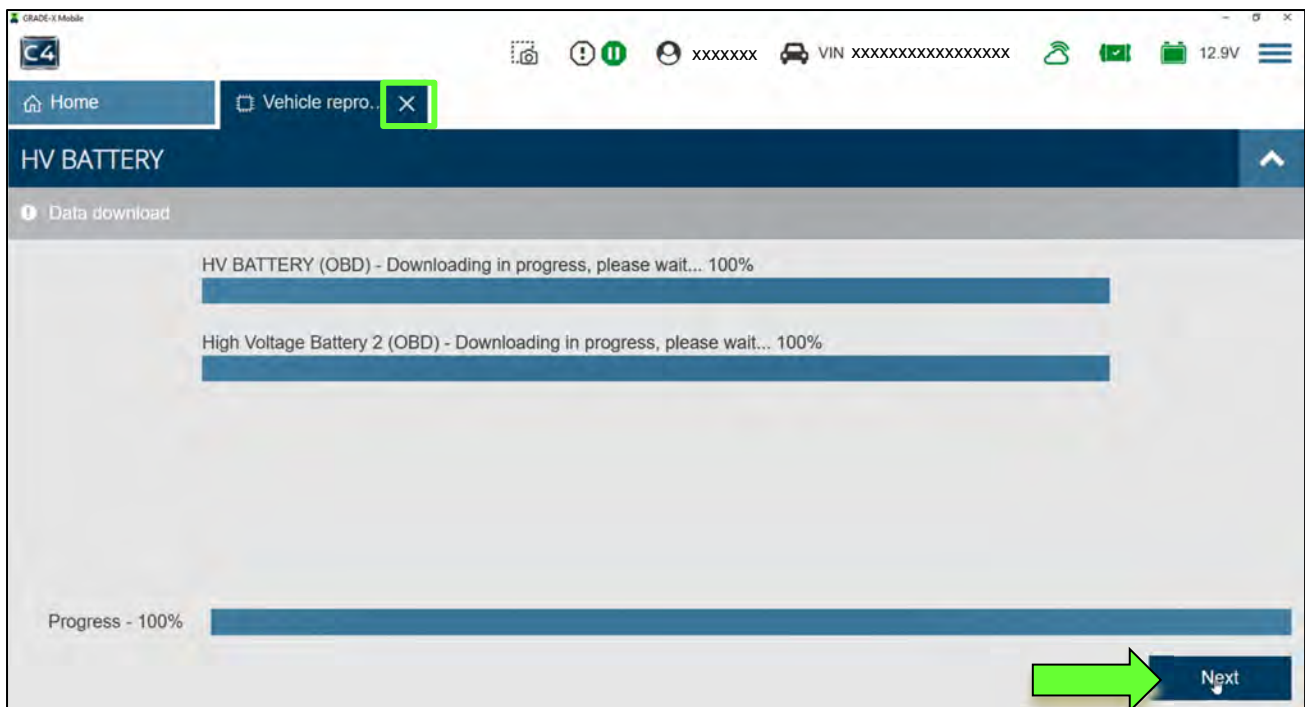

Figure 7
22. Wait for all three (3) progress bars to fill to 100%, and then select **Next**.
**IMPORTANT:** If both “HV BATTERY” and “High Voltage Battery 2” progress bars do not complete, refer to **IMPORTANT** statement on page 2, and then select the **X** next to “Vehicle repro” (Figure 7) and restart the reprogramming at step 15 on page 3.